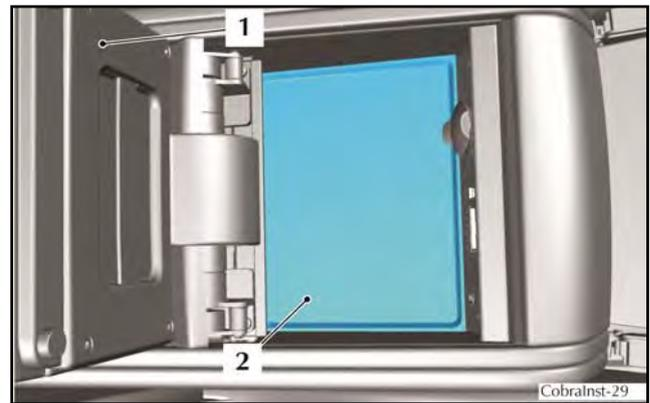

Figure 42
51. Remove the rubber insert (2) from the front stowage compartment of the console (refer to Figure 42).